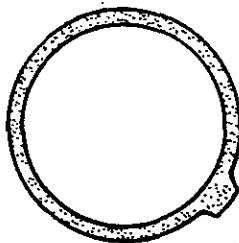

FIGURE 36
3.2 Use $\frac{1}{2}$ " open end wrench to position and secure a single cam stop at the 5:00 o'clock position on the INSPIRATORY FLOWRATE valve. (Fig. 36)